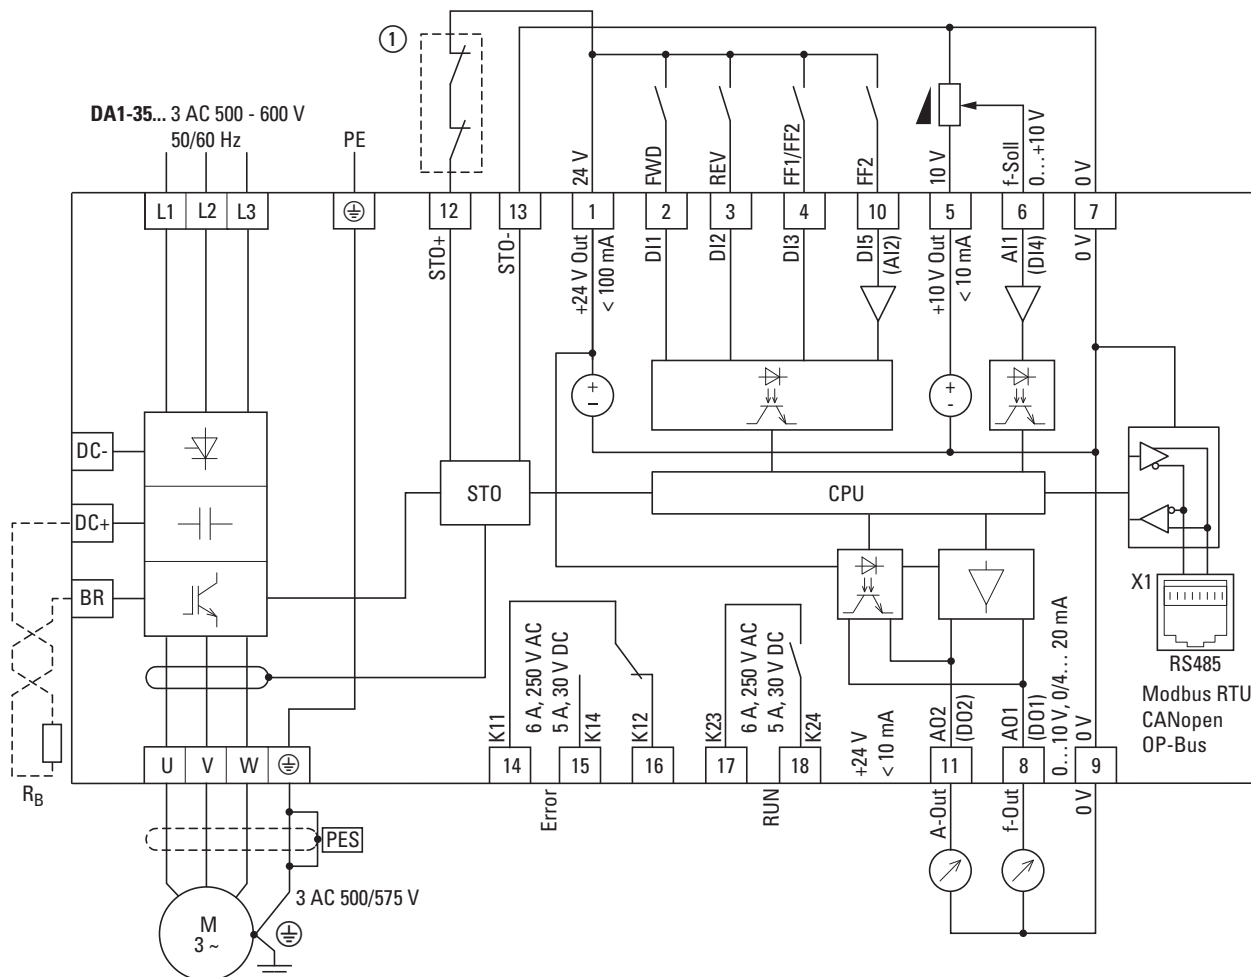

Figure 90:DA1-35... block diagram in frame size FS4
① Direct enable signal for STO function or relay: Safe Torque Off (STO), SIL 2 (EN 61800-5-2) as in → Figure 90, page 121.